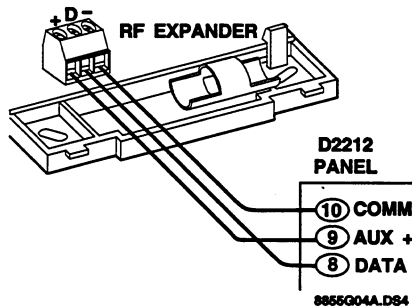

Figure 6. Connecting the Expander to the D2212
2. Connect panel terminals 10, 9, and 8 to Expander terminals -, +, and D, respectively (see Figure 6).